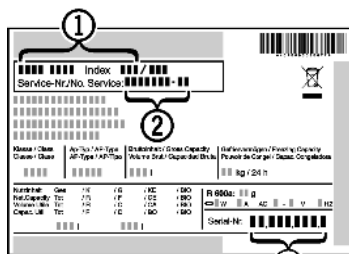

Fig. 18
- ▶ Read the appliance designation *Fig. 18 (1)*, service No. *Fig. 18 (2)* and serial No. *Fig. 18 (3)* off the type plate located inside the appliance on the left-hand side.
- ▶ Notify the customer service, specifying the fault, appliance designation *Fig. 18 (1)*, service No. *Fig. 18 (2)* and serial No. *Fig. 18 (3)*.